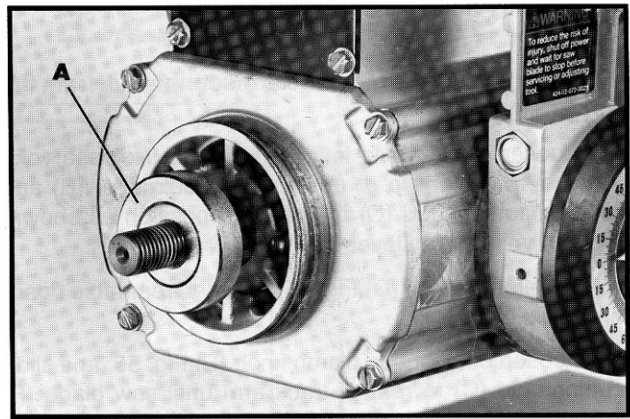

Fig. 59
2. Assemble the inside (thick) arbor flange (A) Fig. 59, onto the arbor shaft with the recessed side of flange (A) facing out.